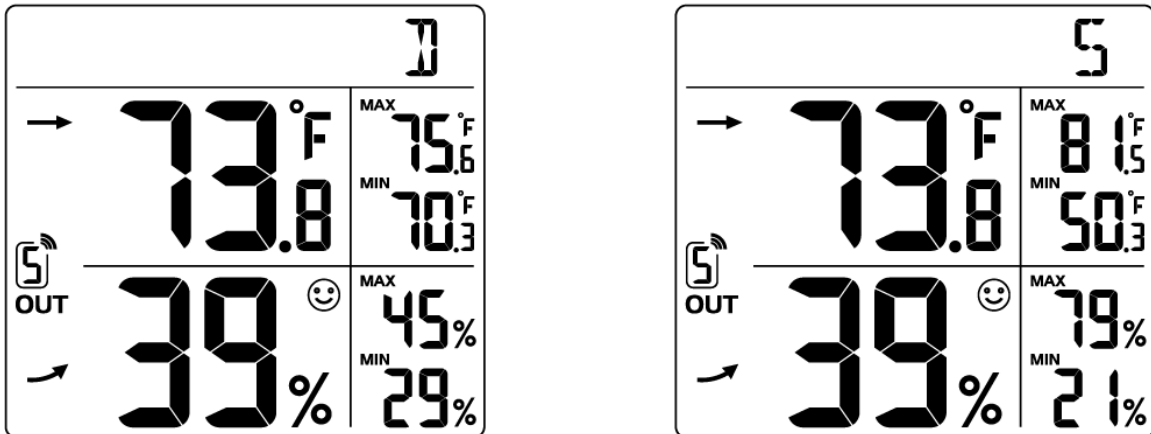

Figure 12
1. In normal mode, press the **MEM / -** key to switch between the daily (D) and all time (S) (since last reset) MAX/MIN temperature and humidity values on the right side section of LCD display, as shown in Figure 12.